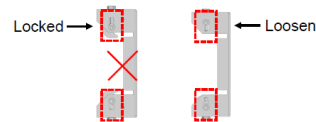

Figure 36. Rear Clamp
6. Loosen two pair of the rear clamp bolts. (Figure 36)